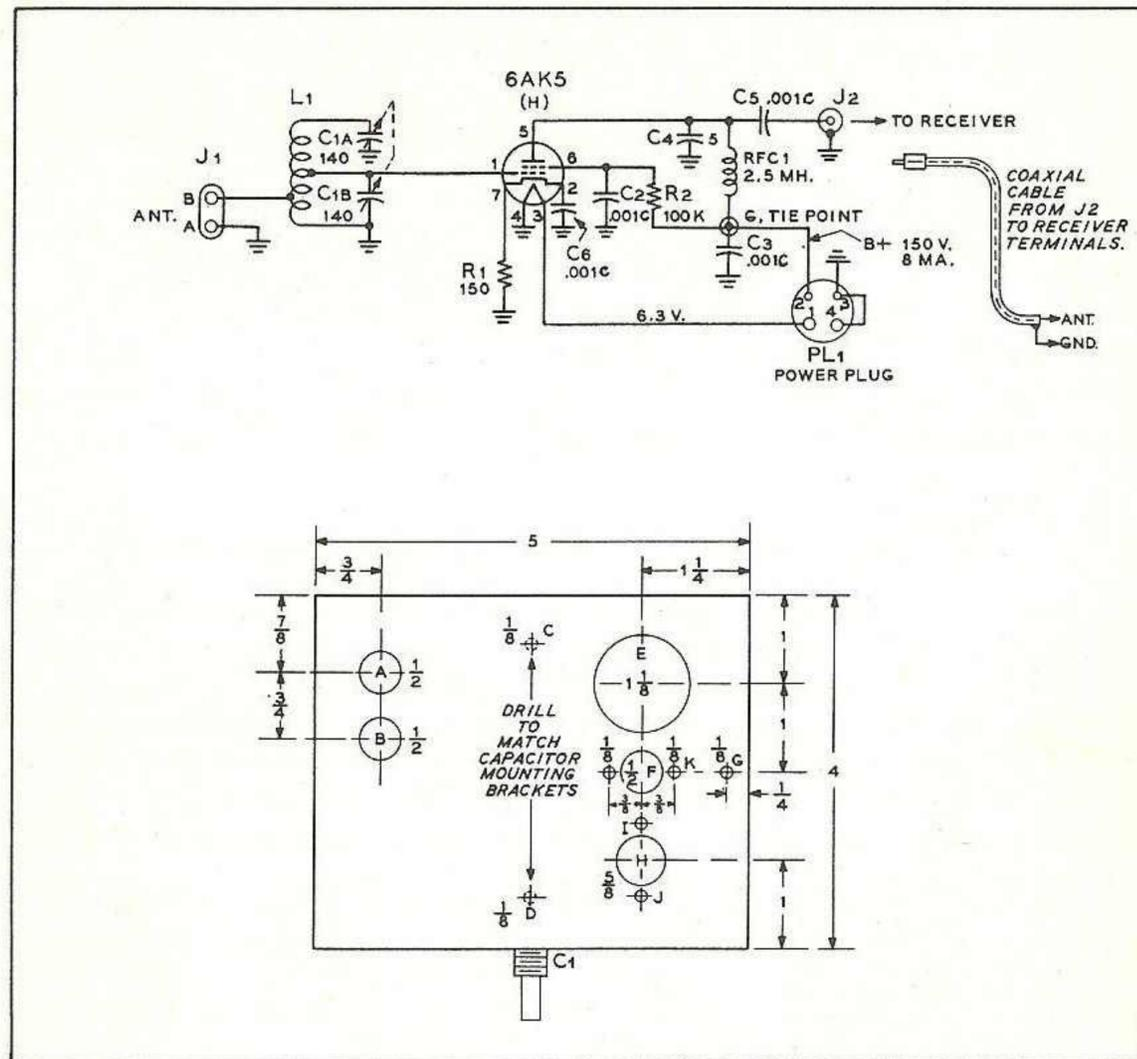

Fig. 2 The simplicity of the preselector can be seen in the above schematic.
A simple diode detector is shown in Figure 2. Current flows through the diode only when the plate is positive with respect to the cathode. At each positive cycle of the radio signal the diode will conduct and charge the capacitor C2. The charge on this capacitor is continually being dissipated by the diode load resistor, R1, and being replenished by the action of the diode. A state of equilibrium is established wherein the capacitor voltage varies in accord with the amplitude of the carrier wave. This voltage is a duplicate of the envelope of the carrier, and may be passed through ear-
Fig. 2 The diode detector is a simple means of recovering the intelligence conveyed in the envelope of the carrier. The variations are rectified by the diode and charge capacitor C2. Indicating device across this capacitor will show variations in carrier envelope. This circuit is also called an "envelope detector."
The signal detector (often referred to as the *second detector*) in most communication receivers is our old friend, the diode. The circuit shown is similar to that of Figure 2, with the load resistor coupled to an extra stage of audio amplification. A volume control is also added to allow regulation of the level of the audio signal.
- ( ) Lay out the chassis holes (Figure 2) to be drilled on the paper wrapper of the chassis. Drill the holes and remove the burrs.
- ( ) Mount the output connector (J2) in F. Under one of the 6-32 nuts place a ground lug, K, as indicated in Figure 2.